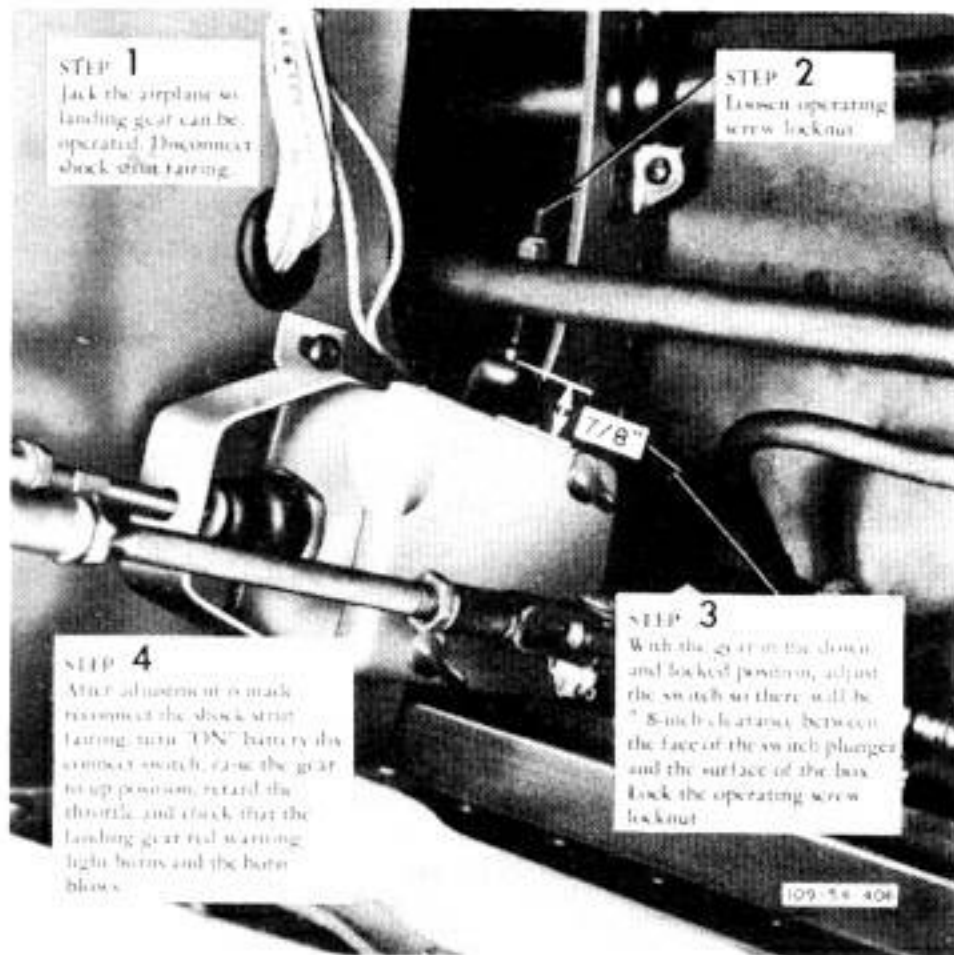

Figure 352—Adjusting Main Gear Actuating Rod Switch
(4) ADJUSTING THE MAIN GEAR STRUT ACTUATING ROD SWITCH. (See figure 352.)